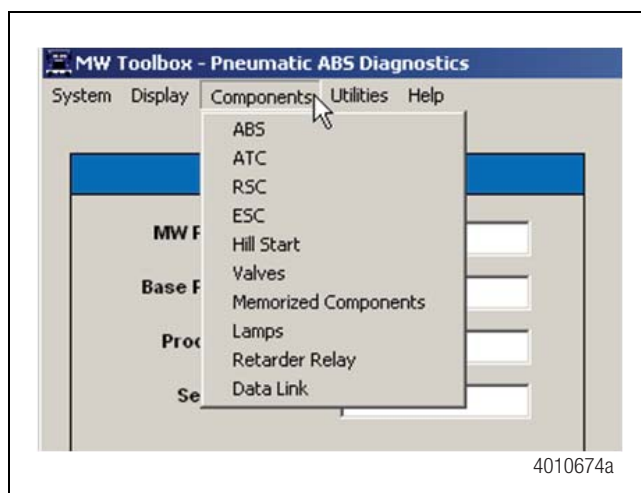
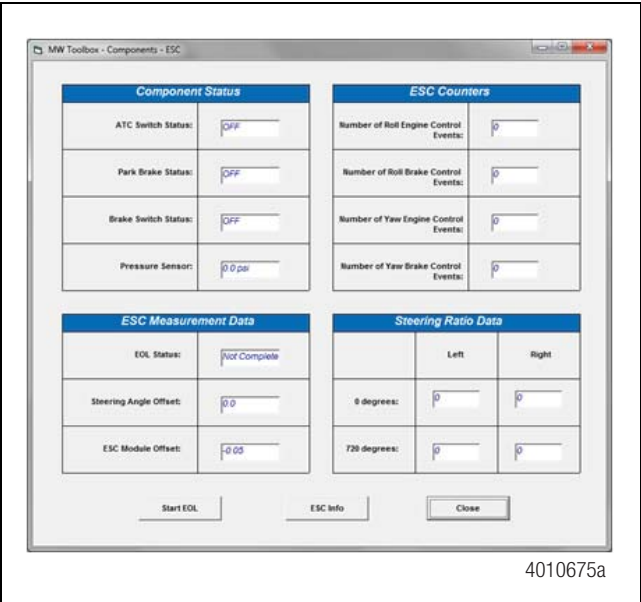

Figure 9.6
Figure 9.7
- If you are using TOOLBOX™ Software version 11 or higher, click on “Components” button. A drop box will appear, Select “ESC” then select “Start EOL”. Figure 9.6 and Figure 9.7.